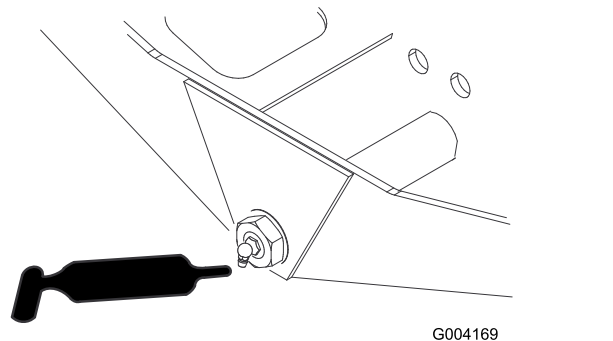

Figure 65
- Axle-steering pivot (1)—Figure 65